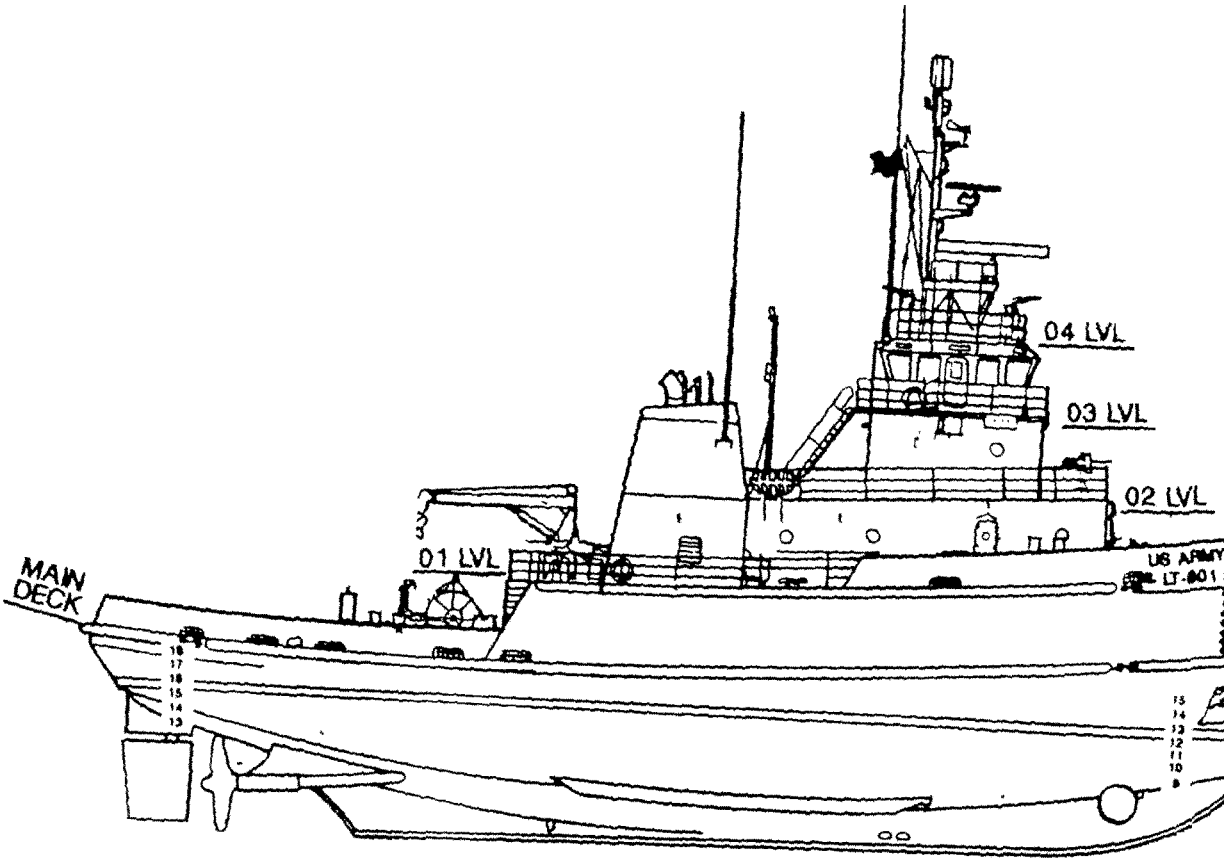

Figure 1-2. LT Decks.
*a. Decks.* LT decks shown in Figure 1-2 are described as follows:
(1) 04 Level. The Pilothouse Top (04 Level) contains radio antennas, fire monitors, binnacle, mast (supporting radar antennas, towing lights and masthead lights), and searchlights.
(2) 03 Level. The 03 Level contains the pilothouse, standard bearing repeaters, auxiliary control stations (port and starboard) and side lights (port and starboard).
(3) 02 Level. The 02 Level includes, but is not limited to, the damage control center, radio room, arms control room, medical locker, electronic stores, life rafts, machine gun mounts, and the aft mast.
(4) 01 Level. The 01 Level includes, but is not limited to, machine gun mounts (aft port and starboard), aft control station, workboat, boat handling crane, and port and starboard anchor windlasses. Interior features include the Chief Engineer's stateroom, Captain's stateroom, Officers' staterooms (port and starboard), NCO's stateroom, emergency generator room, fan room, and engine room air intake (port and starboard).
(5) Main deck. The Main Deck includes but is not limited to, boatswains store, crew's staterooms (port and starboard), galley (including chill, freeze, and thaw rooms), foul weather gear locker, fan room, mess/recreation space, life jacket locker, damage control locker, laundry space, and paint locker. The aft section contains the towing winch (port and starboard), capstan, tow bar, rudder motors, tow pins (port and starboard), tow rollers (port and starboard), NBC locker, and garbage can rack.
(6) Below main deck. Below the main deck are the fore peak, miscellaneous storeroom, auxiliary machinery spaces (fore and aft), workshop, engine room, dirty oil tank, fuel oil day tanks (port and starboard), potable water tanks (port and starboard), steering gear room, towing gear locker, tube oil tank, enclosed operating station, spare parts storeroom, bow thruster compartment, and chain locker.